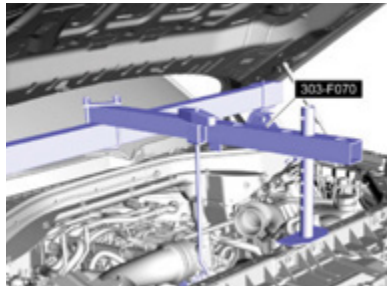

Figure 2
8. Install special service tool: 303-F070 Support Bar, Engine. [Figure 2]